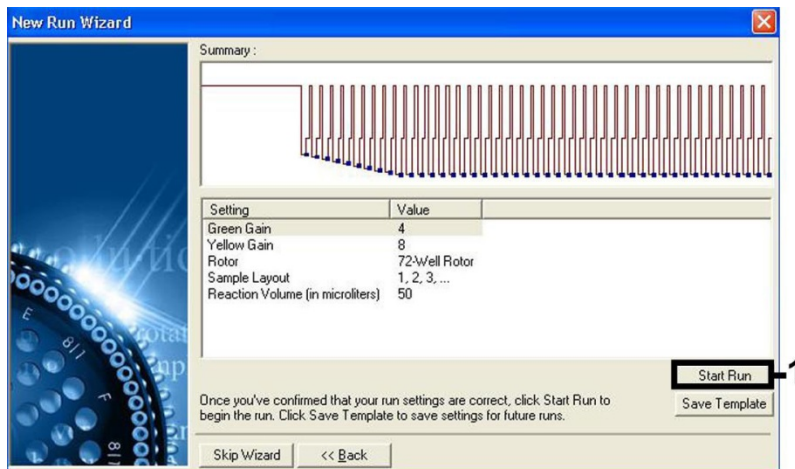

Figure 7. Starting the run.
The detection range of the fluorescence channels has to be determined according to the fluorescence intensities in the PCR tubes. Click **Gain Optimisation** in the **New Run Wizard** dialog box to open the **Auto-Gain Optimisation Setup** dialog box (see Step 6 and Figure 7 in the protocol sheet *Settings to run artus QS-RGQ Kits*).
8. The gain values determined by the channel calibration (or manually assigned) are saved automatically and are listed in the last menu window of the programming procedure (Figure 7). Click **Start Run**.